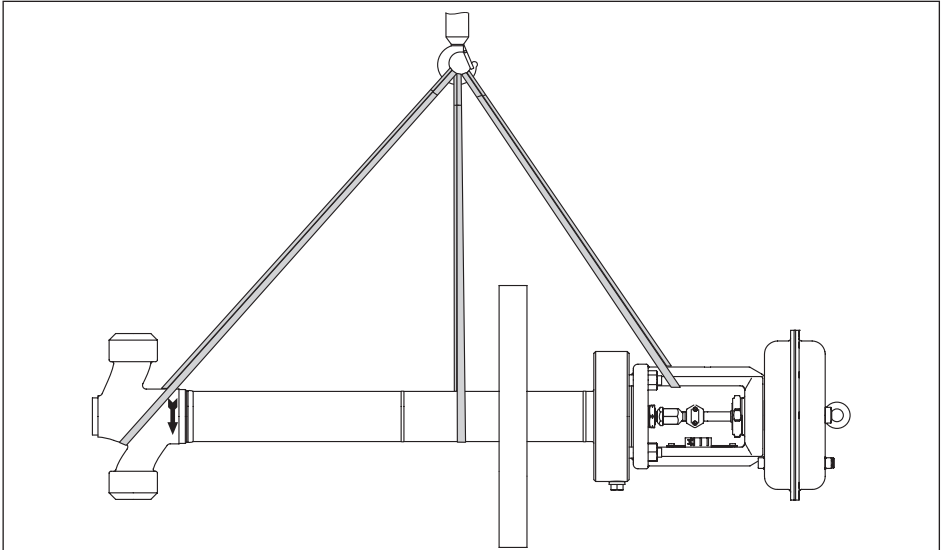

Fig. 4-1: Lifting points on the control valve: lifting in the horizontal position using one hook
- Use a hook with safety latch (see Fig. 4-1) to secure the slings from slipping off the hook during lifting and transporting.
The control valve can be lifted in the horizontal position either using one hook (Fig. 4-1) or using several hooks on a beam (Fig. 4-2).
1. Attach one sling to the valve body, cryogenic extension bonnet and valve bonnet or yoke as well as to the rigging equipment (e.g. hook) of the crane or forklift (see Fig. 4-1).